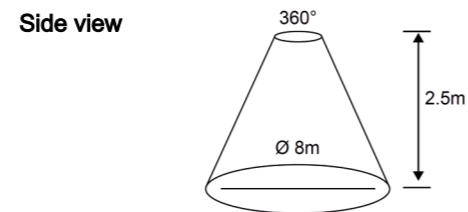

FIG. 1
3.1.1 It should be installed at the height of 2,5m. The detection range can reach up to the diameter of 8m and cover 360° detection angle (See FIG. 1).